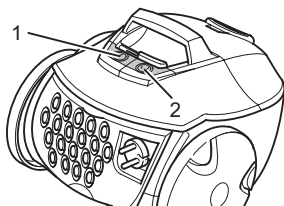

Fig.14
1. Switch off the cylinder vacuum cleaner using the on/off switch (Fig. 14/1) and pull the plug out of the socket.
3. Press the cable retract button (Fig. 14/2) to pull in the power cable.